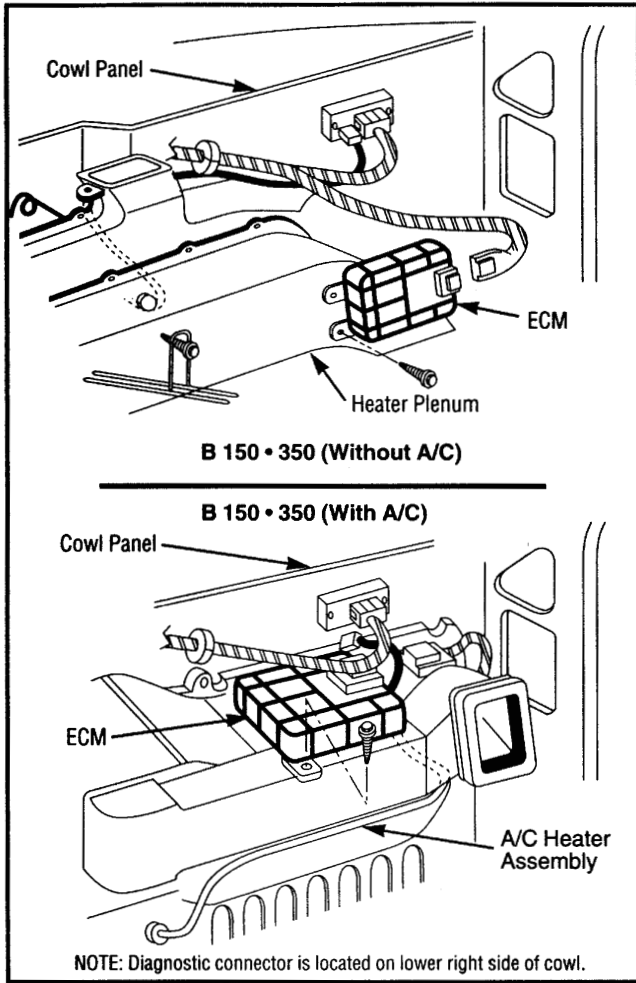

Figure 1:
1. Disconnect the 14 pin connector at the RWAL control module. Make sure the ignition is off. Modules are located (see Figs. 1 - 3):